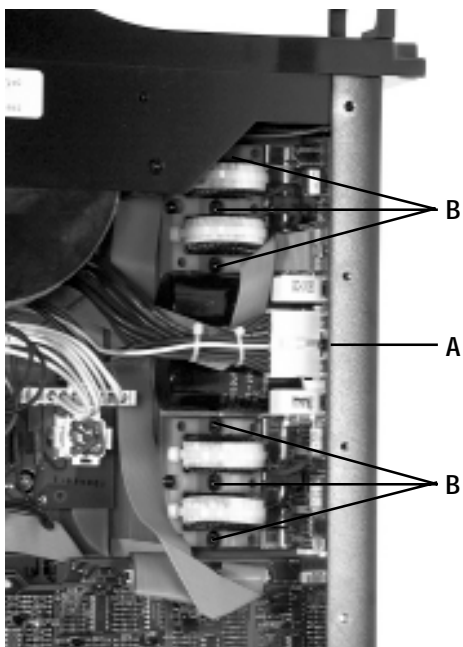

Figure 5.3 Output PWA Screws
3. Using a TX15 bit, remove the screw located at the center-top of the assembly. See Figure 5.3. **Item A.**
4. Using a TX20 bit, remove the six screws located by the four large coils on the assembly. See Figure 5.3. **Item B**